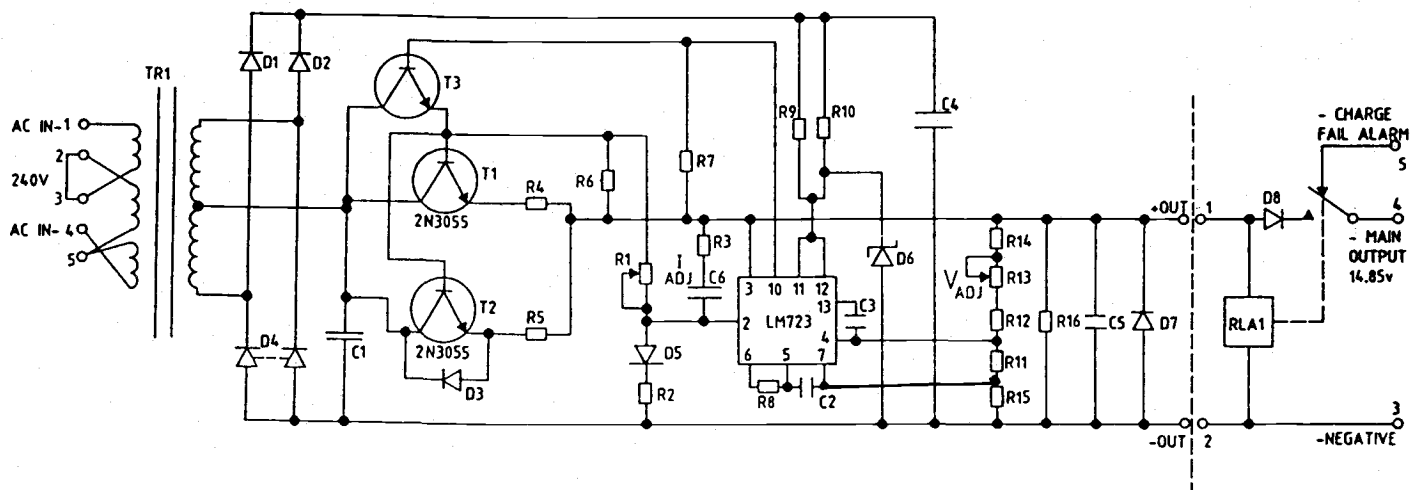

Fig 4 Battery Charger PCB Circuit Diagram
8. The battery charger printed circuit board (pcb) is contained within the battery charger box. Access to and removal of the pcb is by removing the lid of the battery charger box (AESP 6115-G-350-522). For reference purposes, a circuit diagram of the pcb is illustrated in fig 4.